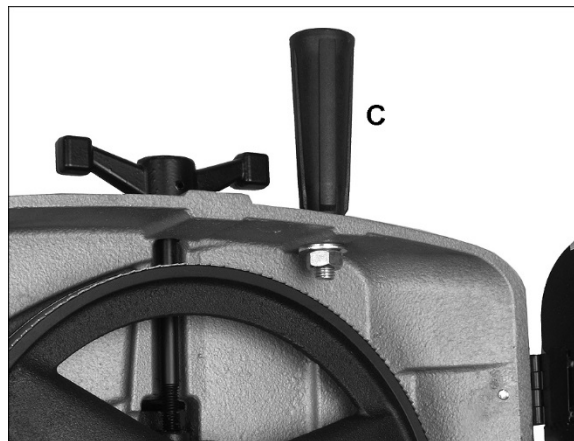
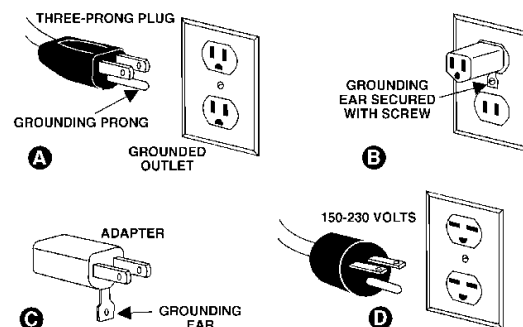

Figure 6-5: Installing Handle
Figure 7-1: Grounding
4. Install handle with flat washers and nut (C, Figure 6-5) using 19mm wrench. To install, raise bow to vertical position and open guard. **CAUTION:** Spring-tensioned stop bracket (see Figure 7-1) must be rotated out of the way before raising bow.
The HVBS-712 and HVBS-712D Band Saw is rated at 115/230V power and is pre-wired for 115 volts. The band saw comes with a plug designed for use on a circuit with a grounded outlet that looks like the one pictured in **A**, Figure 7-1.
When operated at **115-volt**, this tool is intended for use on a circuit that has an outlet that looks like the one illustrated in **A**, Figure 7-1. An adapter, shown in **B** and **C** is not recommended. Provide a properly grounded outlet (A) installed by a qualified electrician. **NOTE:** In Canada, the use of a temporary adaptor is not permitted by the Canadian Electrical Code, C22.1.
When operated at **230-volt**, this tool is intended for use on a circuit that has an outlet that looks like the one illustrated in **D**, Figure 7-1. The tool has a grounding plug that looks like the plug illustrated in **D**. Make sure the tool is connected to an outlet having the same configuration as the plug. No adapter is available or should be used with this tool. If the tool must be reconnected for use on a different type of electric circuit, the reconnection should be made by qualified service personnel; and after reconnection, the tool should comply with all local codes and ordinances.